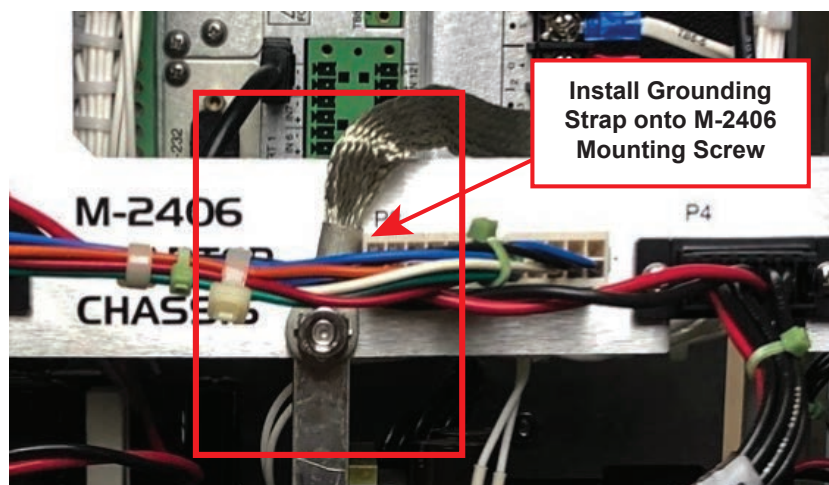

Figure 18 M-2406 Grounding Strap Installed on Rear Mounting Screw
4. Facing the back of the cabinet, place the grounding strap onto the mounting screw at the back of the chassis and use the saved 7/16" nut to secure the strap and the Adapter Chassis to the vertical mounting bracket (Figure 18).